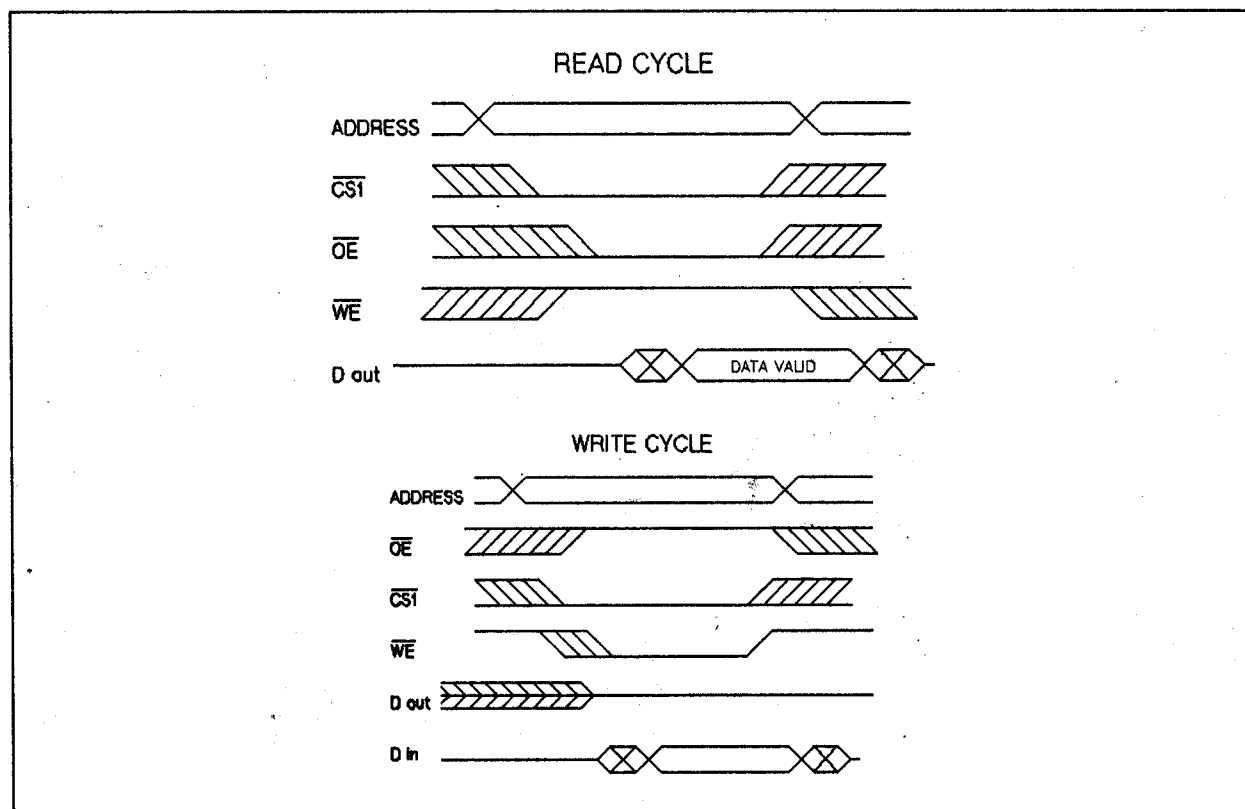

Figure 5-6. Read/Write Timing
5-45. Port 0 of the master microprocessor is multiplexed for data and the lower order address bits for the memory. The address bits are latched at the output of U7 by a low Address Latch Enable (ALE) so that the lines AD0-AD7 may be used for data transmission to and from the memory. ROM is accessed by a low A15 and the output is enabled by a low Program Store Enable (PSEN). RAM access is by a low A15 to enable the IC while a low Read (RD) enables the output, or a low write WR enables the input. The RAM timing is illustrated in Figure 5-6.